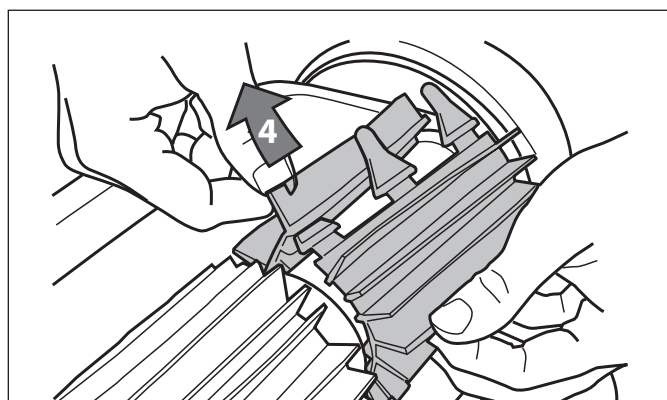

Figure 36. Pull Tabs Through Each Slot
4. Thread each tab into the slot provided and gently feed it through until the heel comes out at the other side of the slot (Figure 36).